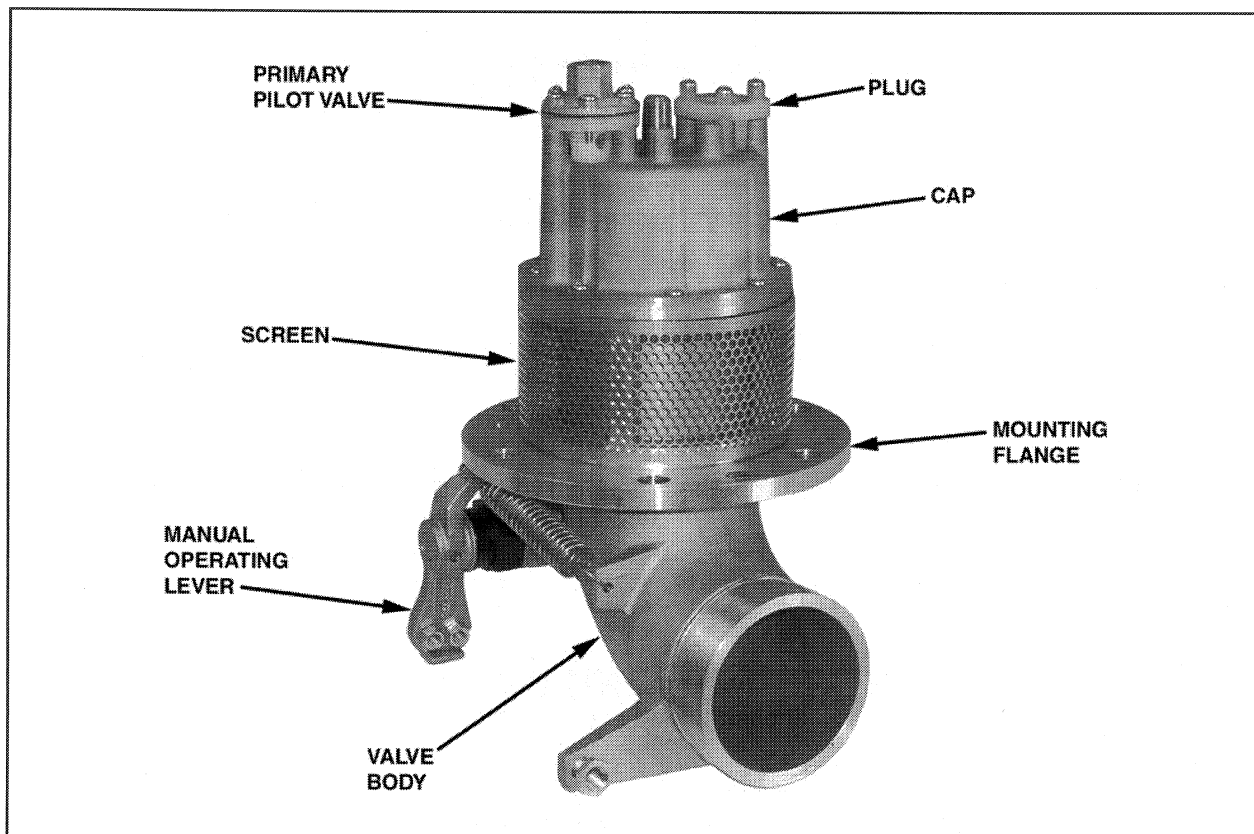

Figure 1. 3-Inch Internal Valve
- A. The 3-Inch Internal Valve (valve) (see Figure 1) is designed to provide normal and emergency shutoff functions and tank liquid level control with low surge, low pressure drop, and high reliability. When used with the F613 jet level sensor, fuel pressure provides the actuation force for opening and closing the valve during tank filling.
Jammed main piston (14, IPL Figure 1) due to contamination	Overhaul the valve.
1. Disassembly of the Valve (Refer to IPL Figure 1)